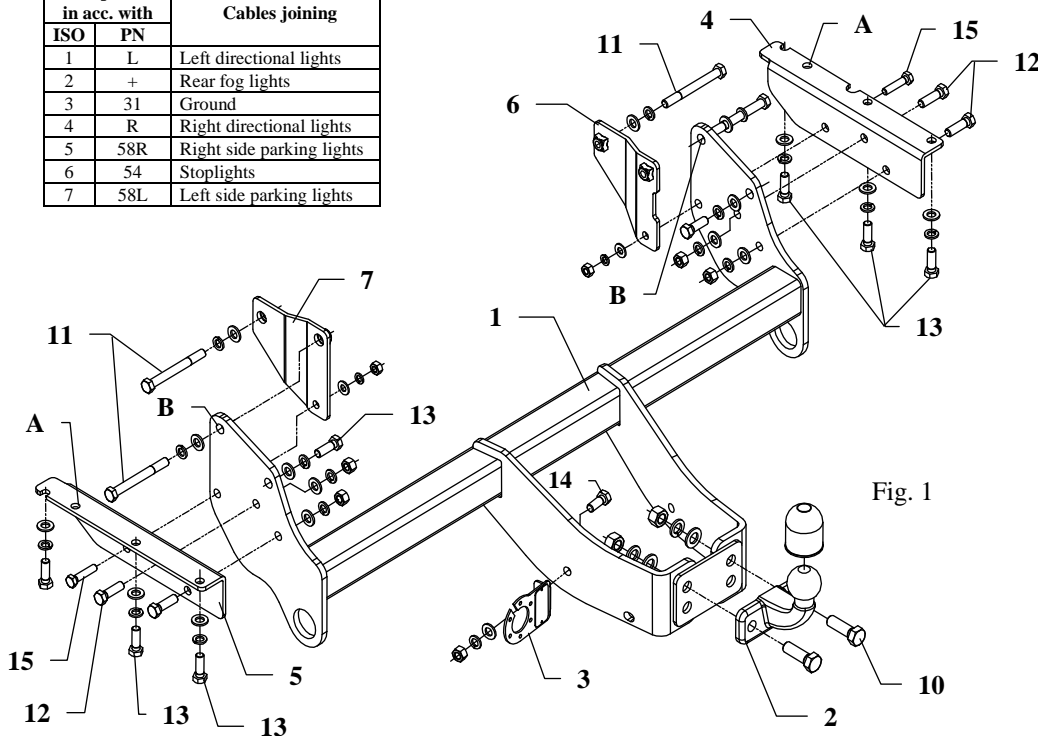
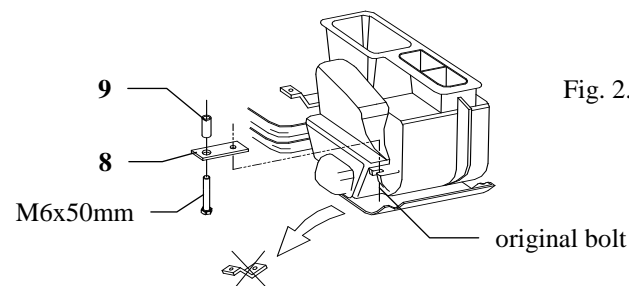

Fig. 1
Fig. 2. Filter installation
2. In long version with air-conditioning disassemble a filter (fig. 2).
3. Put angle bar (pos. 4 and 5) below the car to chassis members in this way so holes in angle bar agree with holes in members and fix by bolts M12x1,25x35mm (pos. 13), see fig.1. **NOTE!** In short version the last bolt fix through hole A of angle bar.
5. Between mounted angle bar put main bar of the towing hitch (pos. 1) and fix by bolts M12x40mm (pos. 12) and:
- **long body version** – put bend fish-plates (pos. 6 and 7) and fix all using bolts M12x110mm (pos. 11) and M10x45mm (pos. 15)
- **short body version**- through holes B fix main bar to the chassis members by bolts M12x110mm (one each side, bend fish-plates pos. 6 and 7 not used)
6. Fix tow ball (pos. 2) using bolts M16x50mm (pos. 10) from accessories.
7. In long version with air-conditioning reassemble a filter (see fig. 2).
8. Fix socket plate (pos. 3) by bolt M12x30mm (pos. 14) as shown on the fig. 1.